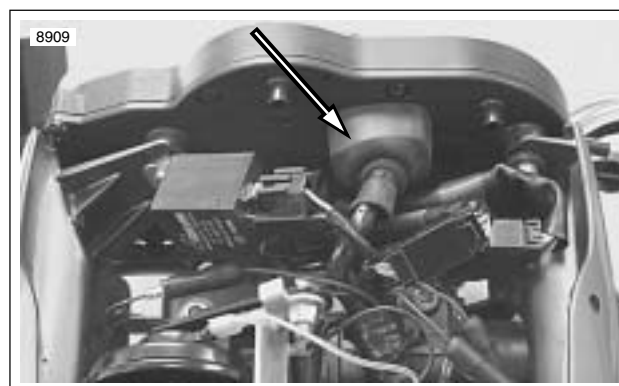
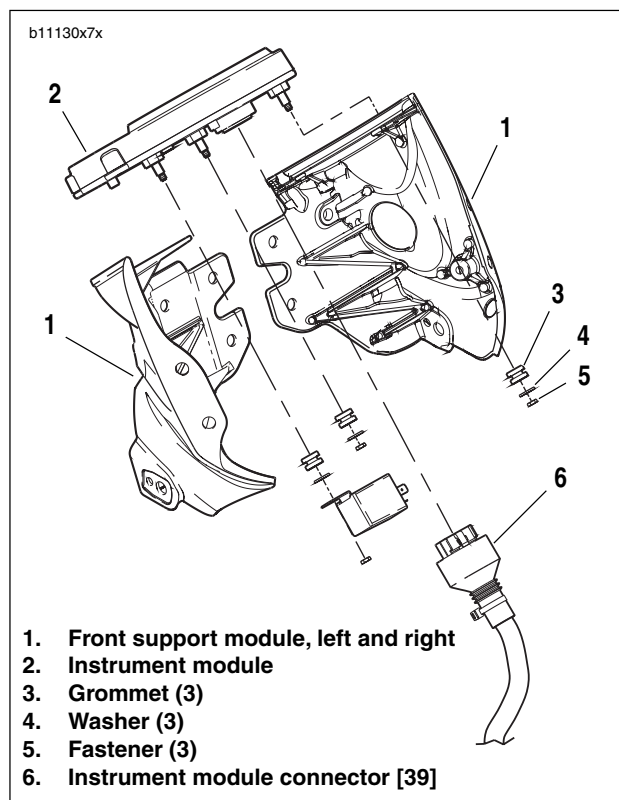

Figure 7-67. Instrument Module Connector [39]
Figure 7-68. Instrument Module
4. See Figure 7-67. Disconnect instrument module connector [39].
5. See Figure 7-68. Remove fasteners (5) and washers (4).
6. Pull instrument module (2) from front support module (1).
1. See Figure 7-68. Place instrument module (2) into position in front support module (1).
2. Install washers (4) and fasteners (5). Tighten fasteners to 12-36 in-lbs (1.4-4.1 Nm).
3. See Figure 7-67. Connect instrument module connector [39].